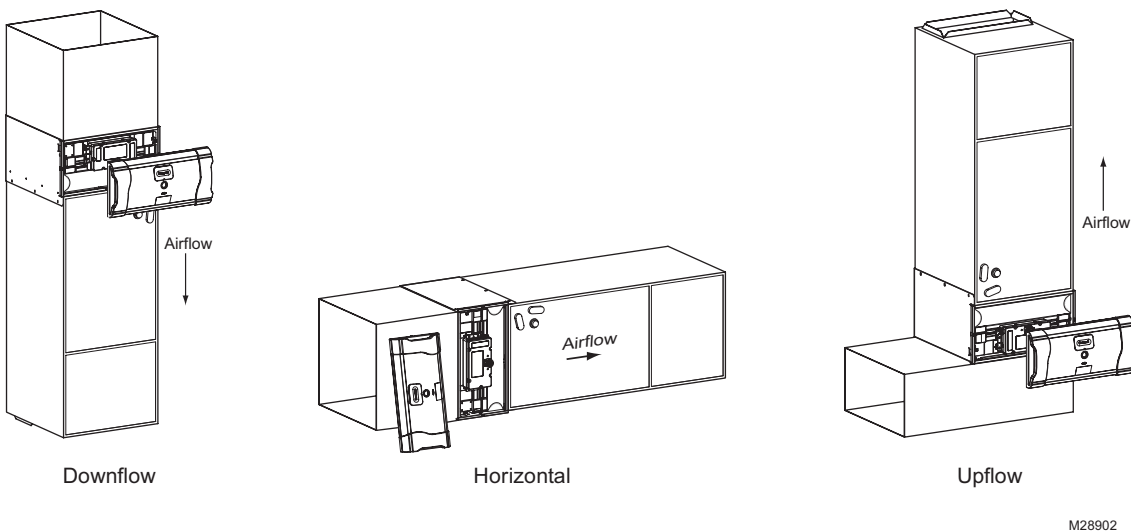
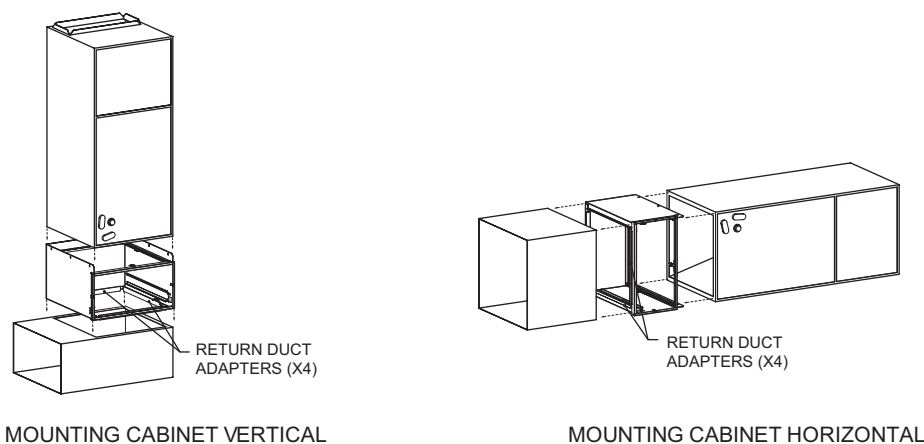

Fig. 4. Cabinet Orientation for FH8000A models.
Fig. 5. Orientation for FH8000A models for Air Handlers.
- Identify a mounting orientation for the Honeywell Enhanced Air Cleaner in the return air duct (see Fig. 4).
- d. Position the cabinet between the air handler and return air duct (see Fig. 4 on page 7 and Fig. 5).